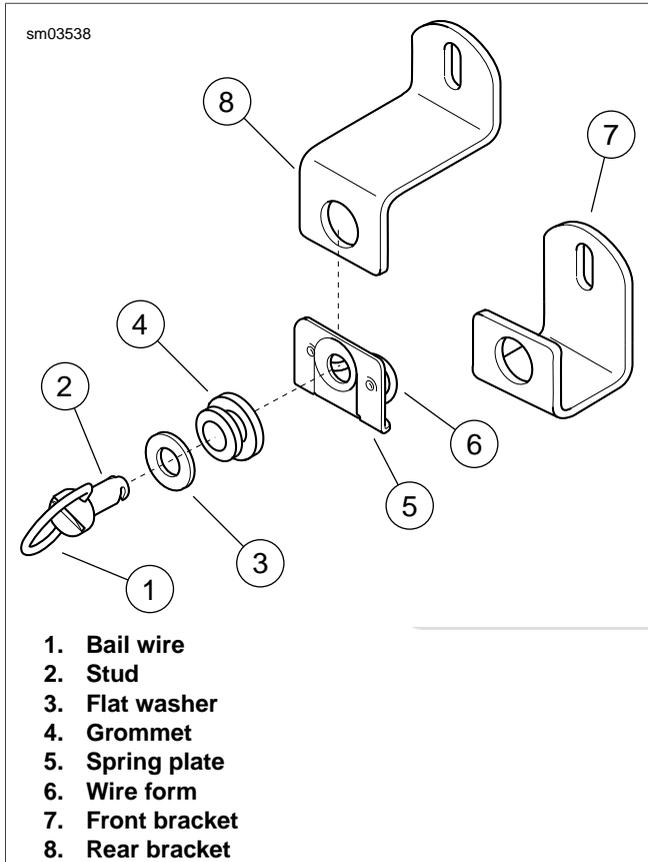

Figure 2-108. Saddlebag Quick-Release Fasteners
2. Grasp bail wire inside saddlebag and rotate each stud a full 1/4 turn in a counterclockwise direction. Remove bail head studs with flat washers from grommets. See Figure 2-108.
Replace grommets if torn or deteriorated. Moisten **new** grommet with glass cleaner or soapy water and work smaller OD through hole into saddlebag. See Figure 2-108.